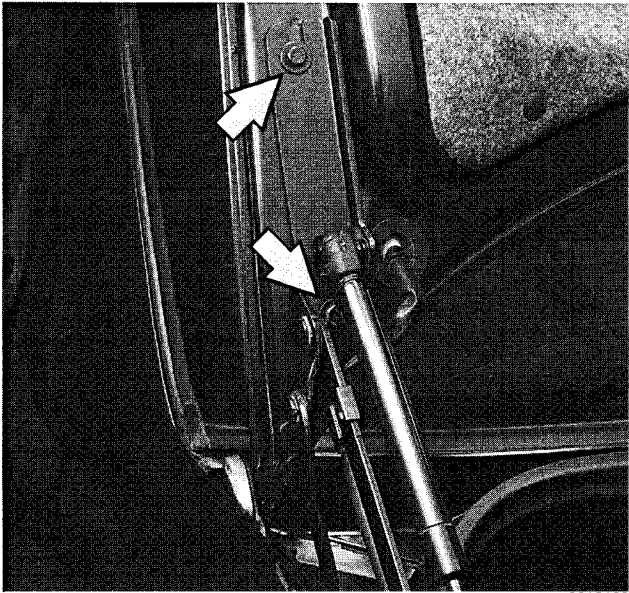

Fig. 2. Trunk lid hinge bolts (arrows). Loosen upper bolt and remove lower bolt.
4. While supporting trunk lid, loosen top hinge bolts and remove lower bolts from left and right sides. Remove trunk lid with aid of helper. See Fig. 2.